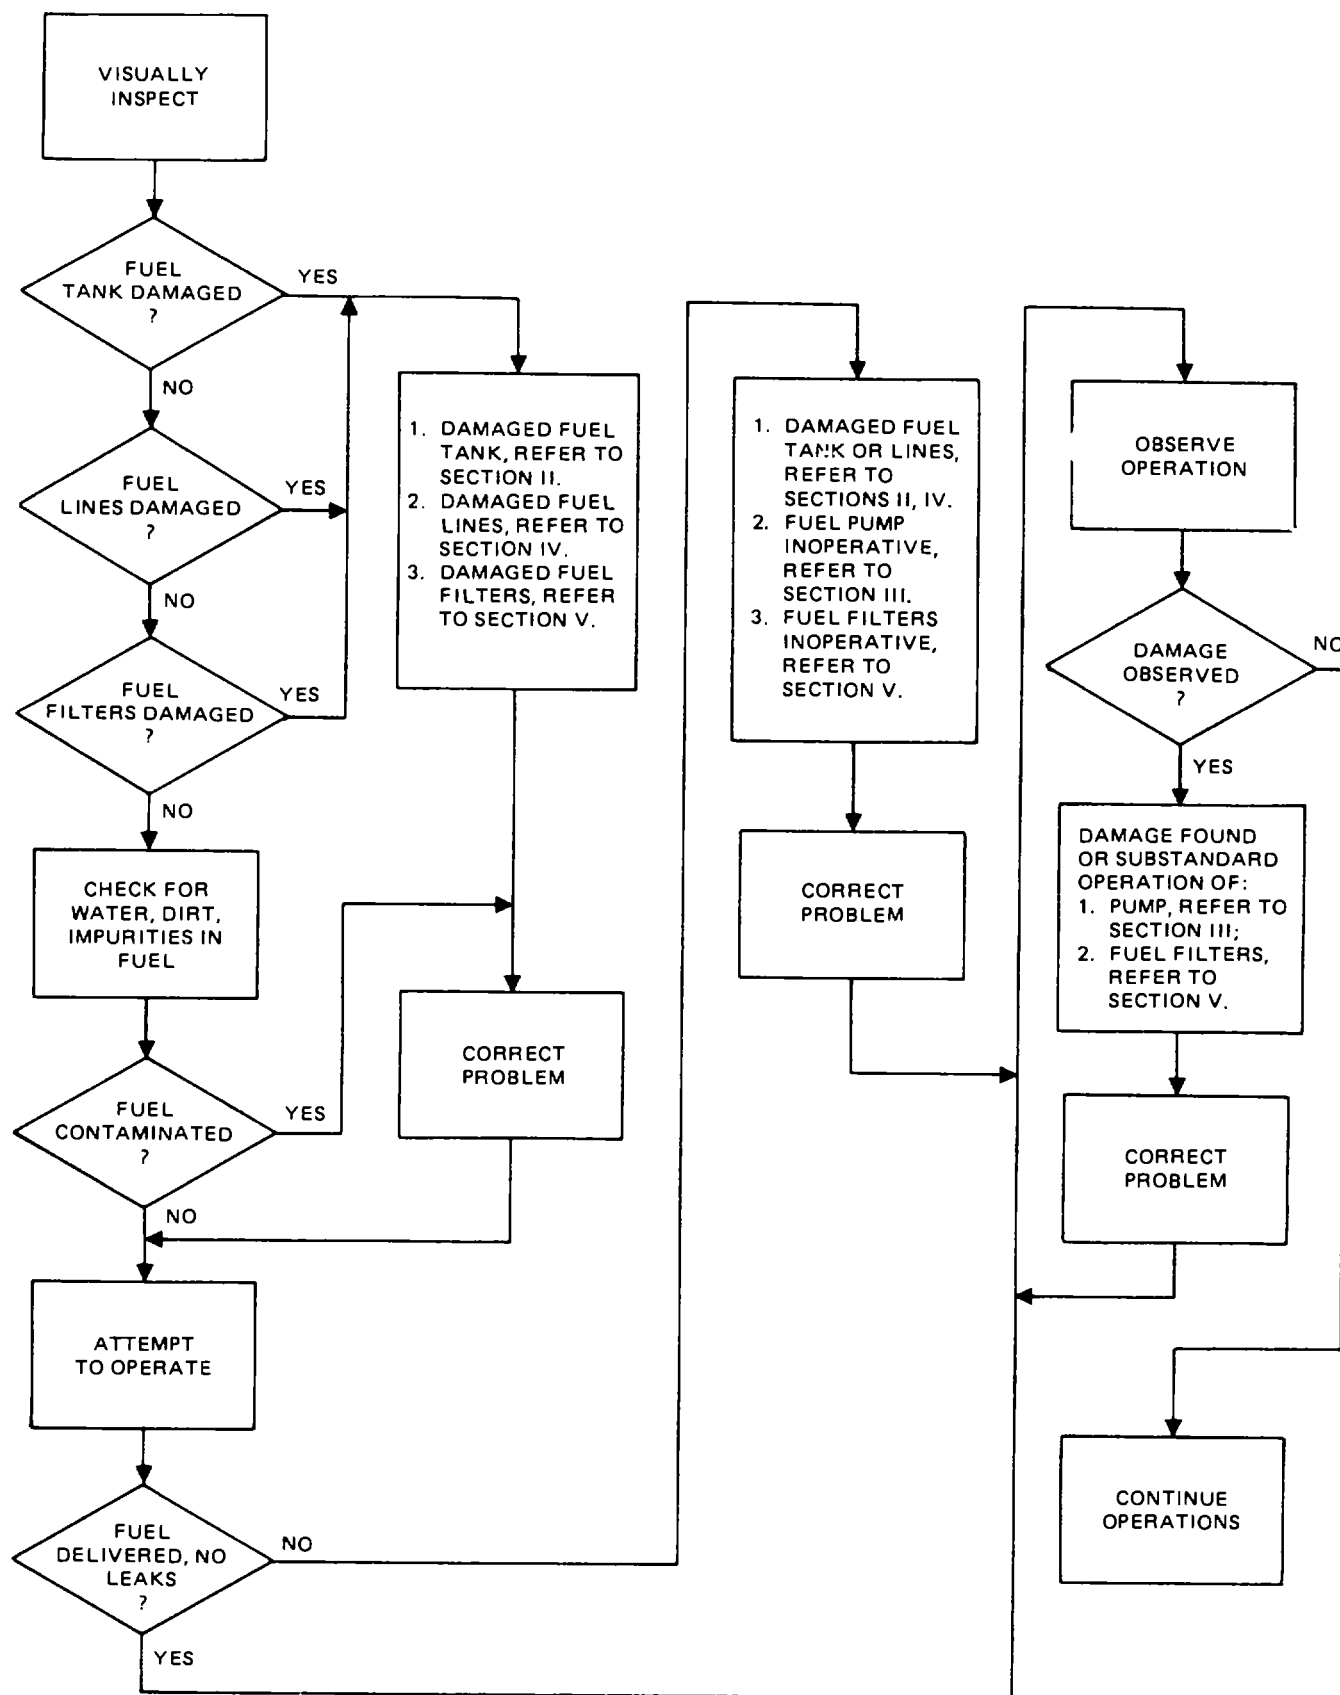

Figure 5-1. Fuel Supply System Failure Assessment.
**5-2. Assessment Procedure.** Fuel supply assessment procedures are structured using the logic process shown in figure 5-1.